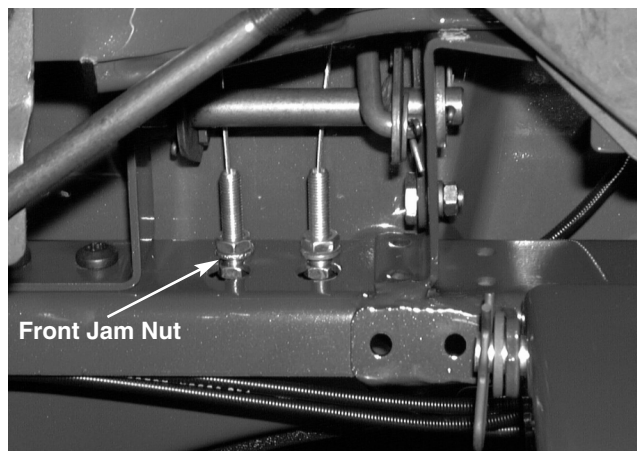

FIGURE 6.
- 7). By hand, loosen the front jam nut several full turns. See figure 6.